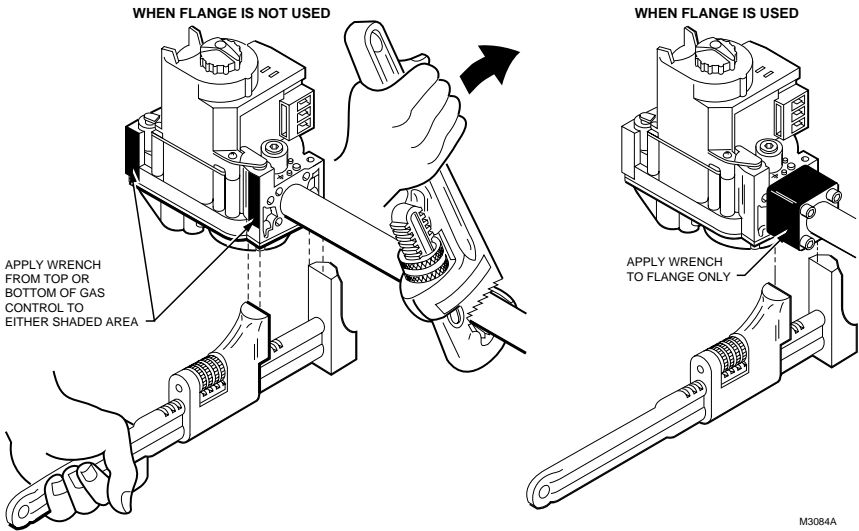

Fig. 5. Proper use of wrench on gas control with and without flanges.
Complete the instructions below for installing the piping, installing the control, connecting the pilot gas tubing and the wiring. Make sure the leak test you perform on the control after completing the installation includes leak testing the adapters and screws. If you use a wrench on the valve after the flanges are installed, use the wrench only on the flange, not on the control. See Fig. 5.
6. Connect the pipe to the control inlet and outlet. Use a wrench on the square ends of the control. If a flange is used, place the wrench on the flange rather than on the control. Refer to Figs. 5 and 6.